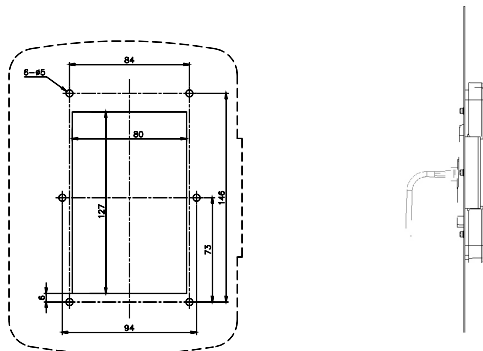

Figure 1. Cutout Drawing and Side Viewing
3. Create the cutout at the desired location on the customer supplied panel as show in Figure 1.